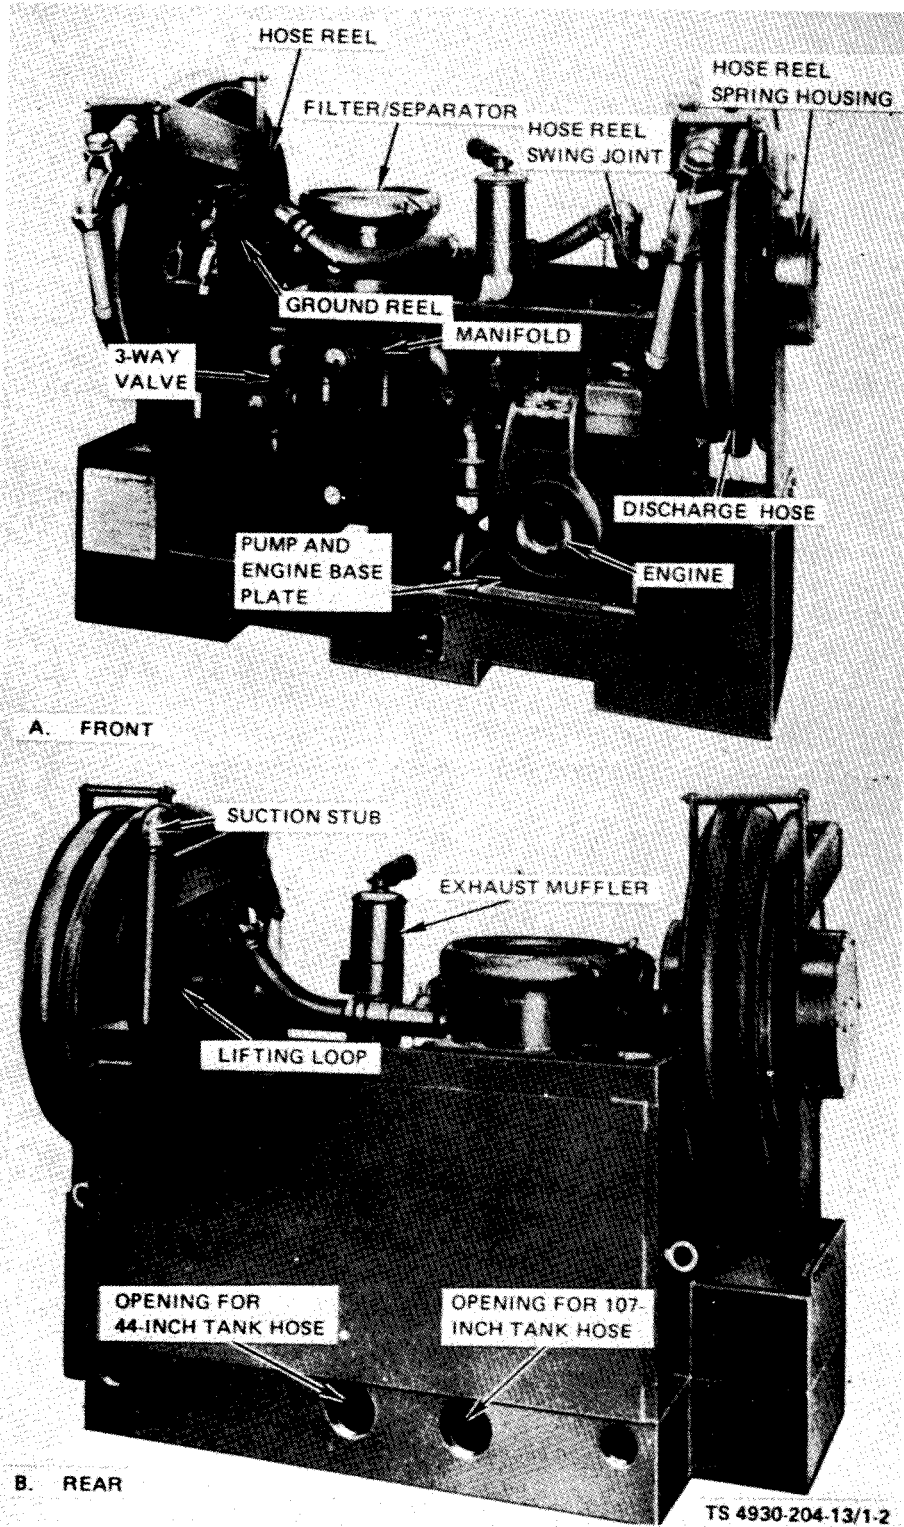

Figure 1-2. Model 2519 Pumping Assembly, Front and Rear View.
b. Pump Unit. The pump unit of the tank and pump unit includes the pump, engine, filter/separator, reels and other related items of equipment. Refer to figures 1-2 and 1-3 for views of different models.